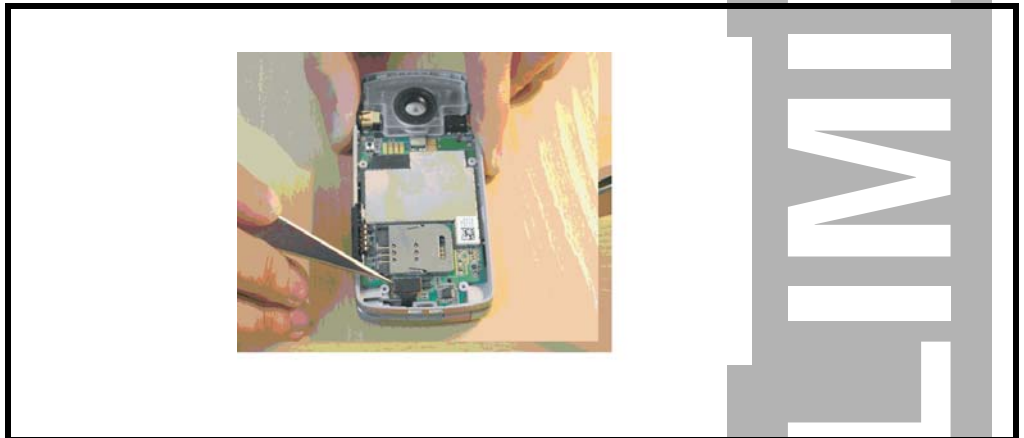

Figure 12. Removing BTB-FPC Connector
3. Remove the BTB-FPC connector from Main PCBA with a tweezer as shown in Figure 12.